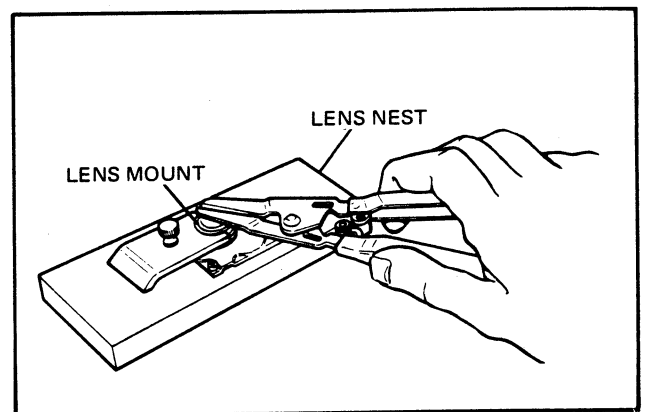

FIG. 5.54 FREEING THE FRONT ELEMENT
9. Set the lens mount in lens nest 11394 (Figure 5-54). Put a few drops of methanol on the seal between the front and rear lens